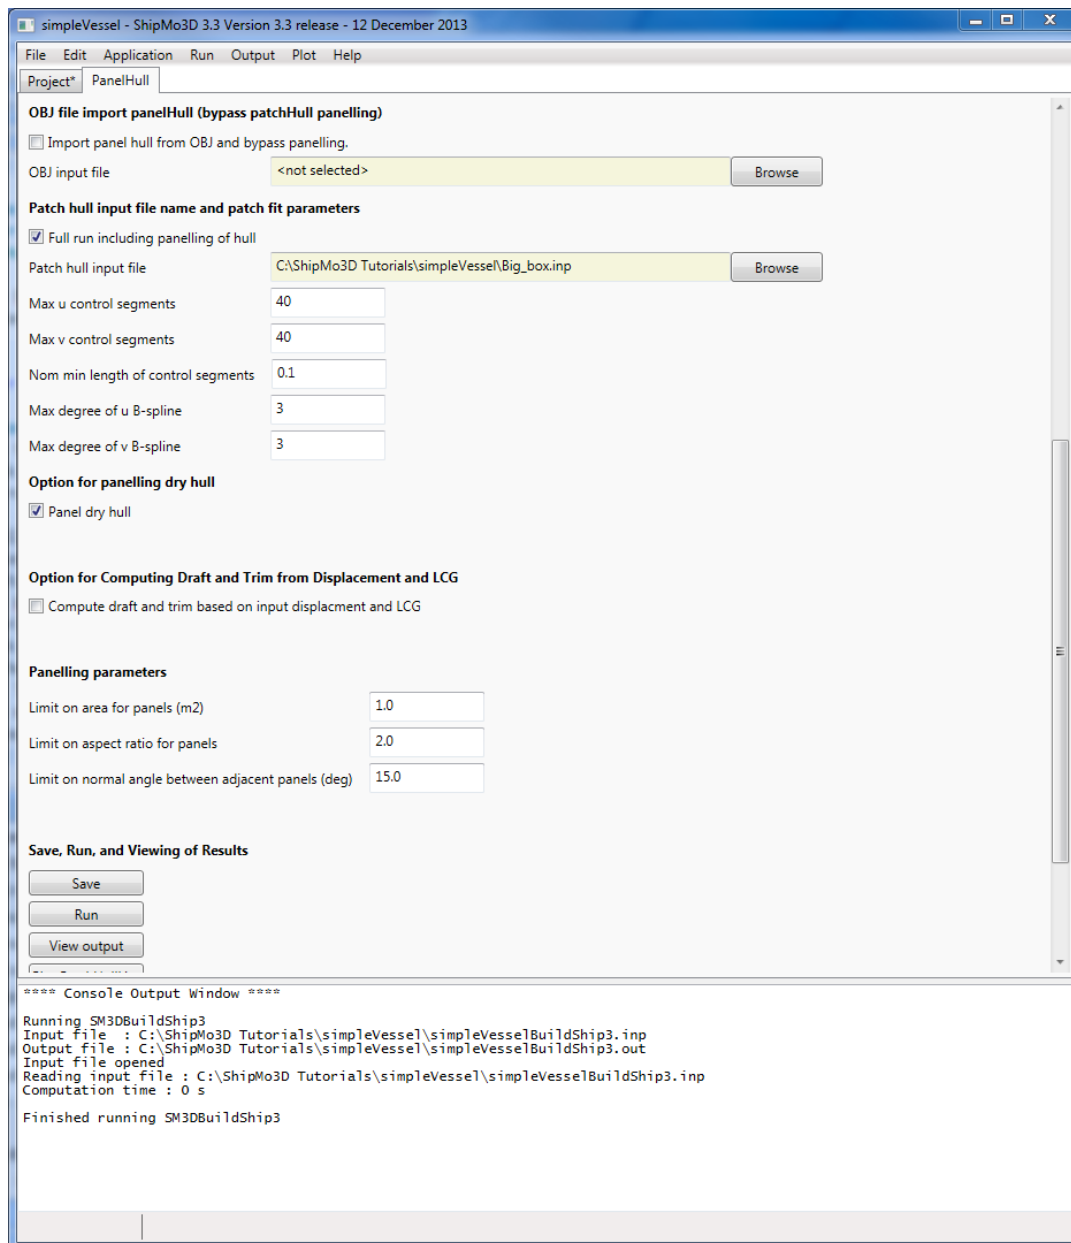

Figure 13: The PanelHull's panelling parameters
- ⊛ leave the remaining parameters in section “Patch hull input file name and patch fit parameters” at default values as indicated in Figure 13.